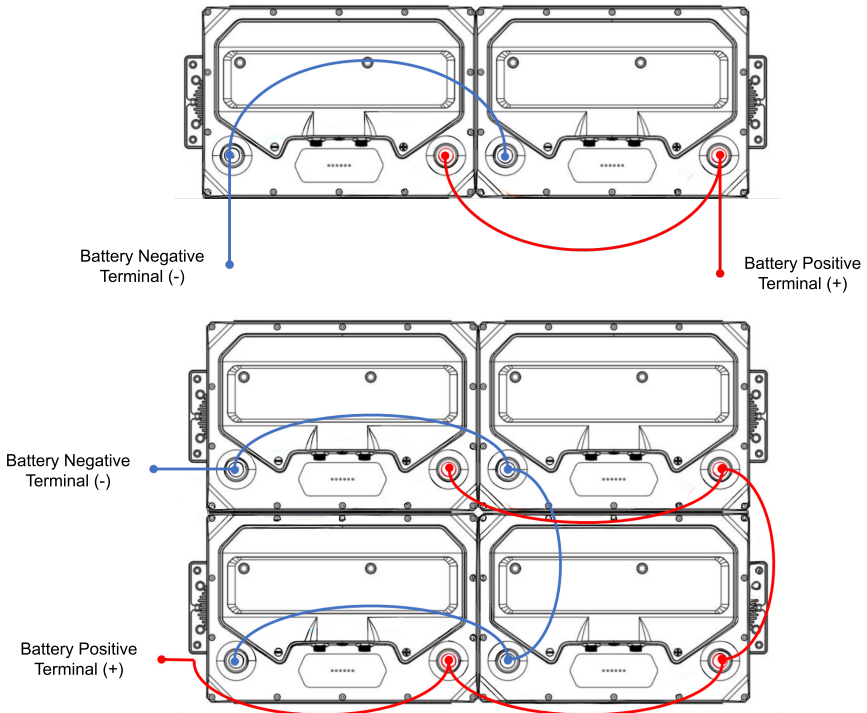

Figure 6: HUSKY 2 Power Cable Connection Diagram
5. Connect the batteries in parallel using the 4AWG +/- Ring Terminal Cables. Ensure that all positive terminals are connected to each other, and all negative terminals are connected to each other, as shown in Figure 6.